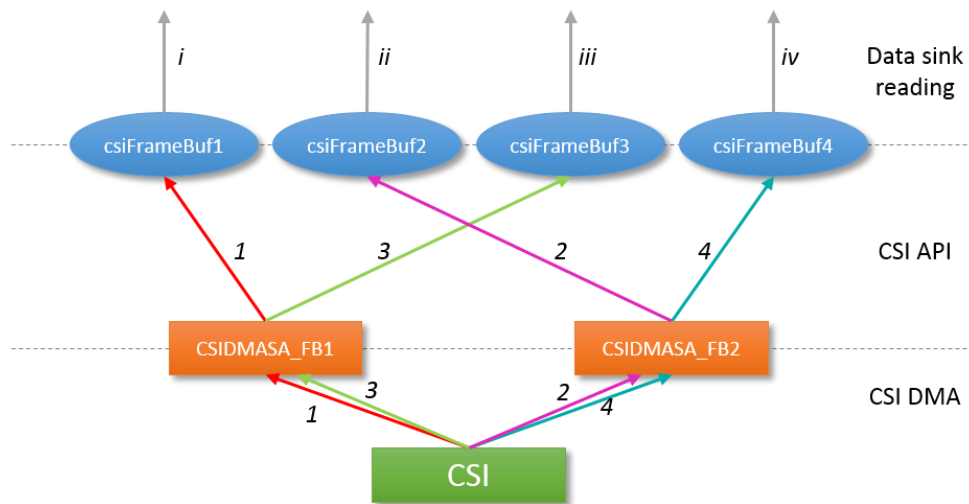

Figure 6. CSI Frame buffer filling scheme
The CSI embedded DMA can write two frame buffer addresses alternately without stop. To improve the performance, especially for a complicated application, the SDK CSI driver extends the supported buffers to up to four, and organizes the frame buffers in a ring queue structure. CSI fills the buffers one by one, so that the data sink, such as LCD interface, can drain the buffers at the same time. Figure 6 illustrates the CSI frame buffer filling scheme.
- b. CSI fills frame buffer 1 via *CSIDMASA_FB1* (the data stream 1 in Figure 6).
- d. CSI starts to fill frame buffer 2 via *CSIDMASA_FB2* (the data stream 2 in Figure 6). At the same time, data sink can drain frame buffer 1 (the data stream *i* in Figure 6).
- f. CSI starts to fill frame buffer 3 via *CSIDMASA_FB1* (the data stream 3 in Figure 6). At the same time, data sink can drain frame buffer 2 (the data stream *ii* in Figure 6).
- h. CSI starts to fill frame buffer 4 via *CSIDMASA_FB2* (the data stream 4 in Figure 6). At the same time, data sink can drain buffer 3 (the data stream *iii* in Figure 6).
- j. Repeats from step 2 again. At the same time, data sink can drain buffer 4 (the data stream *iv* in Figure 6).